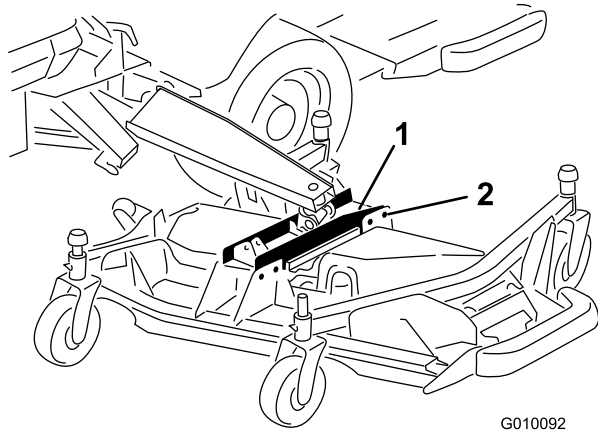

Figure 3
- Remove (8) flange head screws and lock nuts that secure deck connection to cutting unit (Figure 3).
7. Install the deck connection to the cutting unit with (8) flange head screws and lock nuts previously removed (Figure 3). Torque the bolts to 67-83 ft-lb (91-112 N-m).